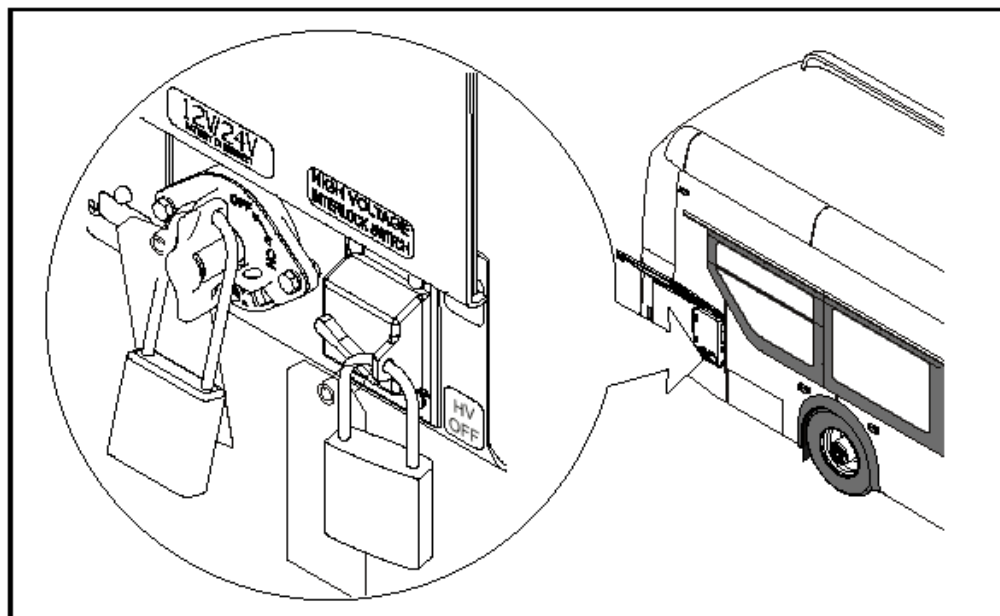

Figure 1: Lockout tagout location reference
- 1.4 Lock and Tag the electrical system of the bus out and retain the key. See Figure 1.